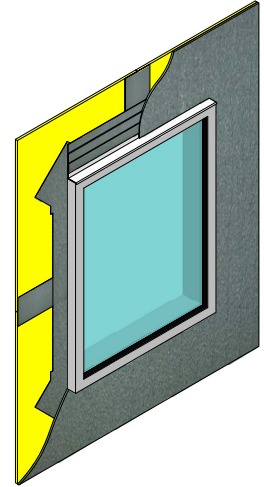

Figure 17
13. Apply Finestop RA/RS/VB per the product bulletin instructions over the substrate. (See Figure 17)